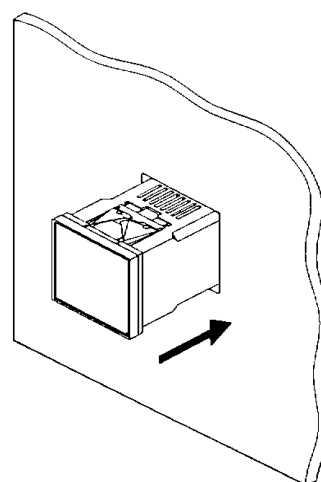

Fig. 1
- ① Make a rectangular cutout corresponding to the number of controllers to be mounted on panel by referring to the panel cutout dimensions.
- ② Since the mounting brackets are already installed on the controller, insert the controller into the panel from the panel front without removal of the brackets (Fig. 1).
- ① Remove the mounting brackets from the controller with a slotted screwdriver.